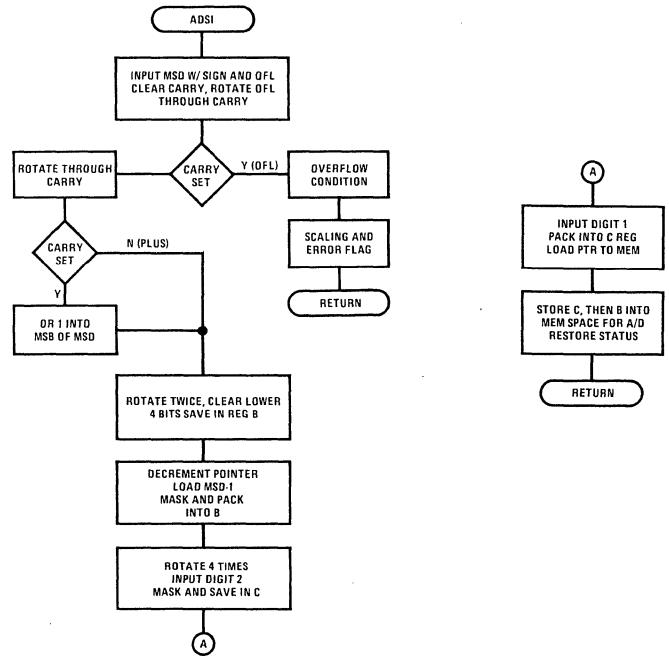

FIGURE 6. Flow Chart for Single Channel A/D Converter
*Figure 6* and routine 1 are the flow chart and assembly language routine used to implement this action.